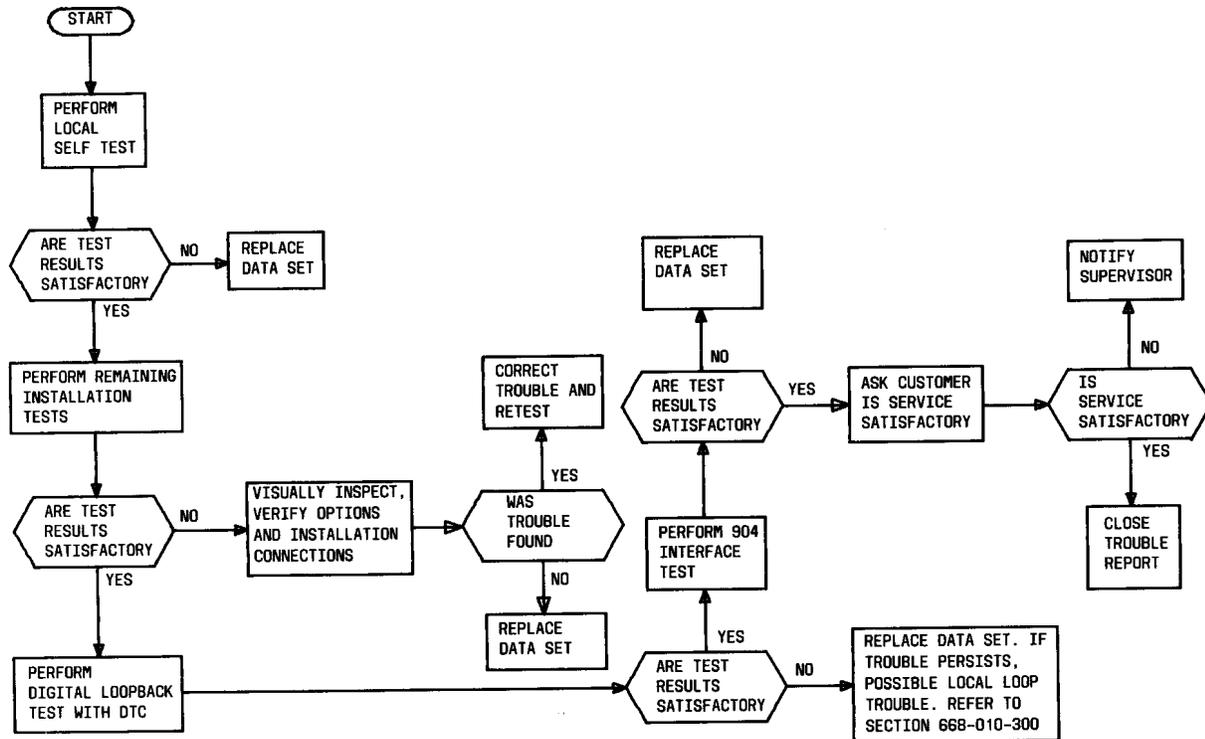

Fig. 7—Station Test Sequence
(1) Upon arrival at the customer location, the telco employee should make a quick visual inspection of the data set. Verify that power is applied. Check also for other possible causes of trouble, such as cable and connector defects.
(2) If this initial check does not reveal a trouble condition, proceed as indicated in Fig. 7.